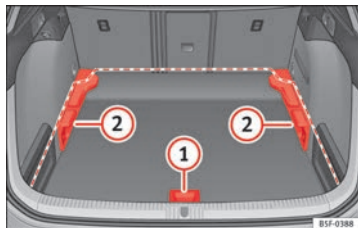
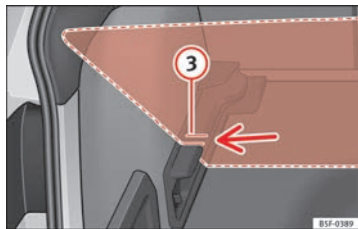

Fig. 112 Luggage compartment variable floor: positions.
Fig. 113 Luggage compartment variable floor: grooves tilted.
- Lift the floor using handle ⇒ Fig. 112 ① and pull it back until the front of the floor has fully passed the supports ②.
- Move the floor forward over the supports as far as the rear seat backrest and then lower the floor with the handle ①.
- Now match the front part with the lower grooves of the supports and slide the floor forwards as far as the rear seat backrest and lower the floor with the handle ①.
- Lift the variable floor using handle ⇒ Fig. 112 ① and pull it back until the front of the floor has fully passed the tilted grooves ⇒ Fig. 113 ③.
- Run the floor through these grooves with the help of handle ① as the rear seat backrest and until the floor is resting in the grooves.